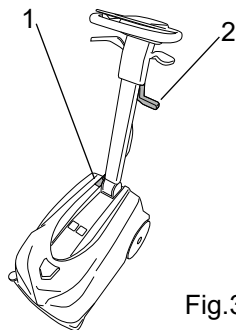

Fig.3
- Turn off the machine off at the main switch (fig. 3, ref. 1).
- Raise the squeegee by operating the lever (fig. 3, ref. 2).